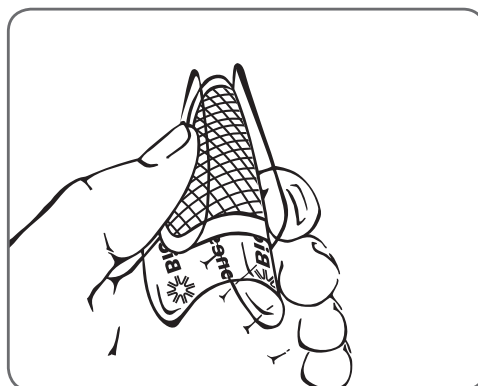

Figure 8-11: Splitting the two-piece covers.
2. Split the two-piece covers on each electrode and discard them. See Figure 8-11.